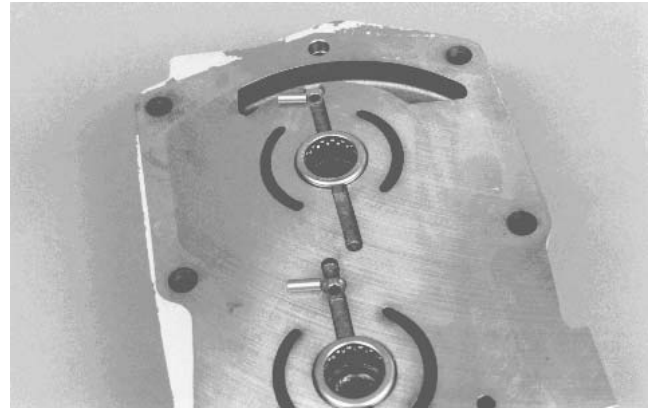

Figure 68
17. Install valve plate locating pins into center section (Fig. 68).